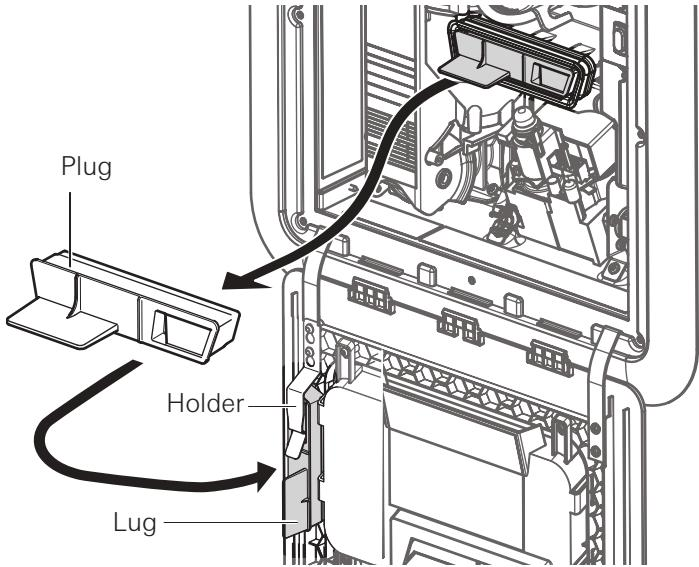

Fig. 9
Remove the plug from the flue duct and clamp it beneath the holder (see Figure 9).
3. Remove the plug from the flue duct and clamp it beneath the holder (see Figure 9).
- Remove the plug from the flue duct and clamp it beneath the holder (see Figure 9).